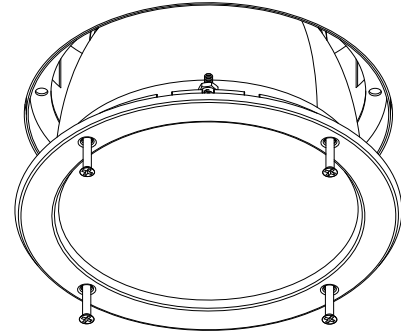

Figure 6
6. For trims with screws, insert the trim into the frame ring aligning the four (4) trim mounting screws with the cage nuts in the frame ring. Tighten to secure the trim. See Figure 6.